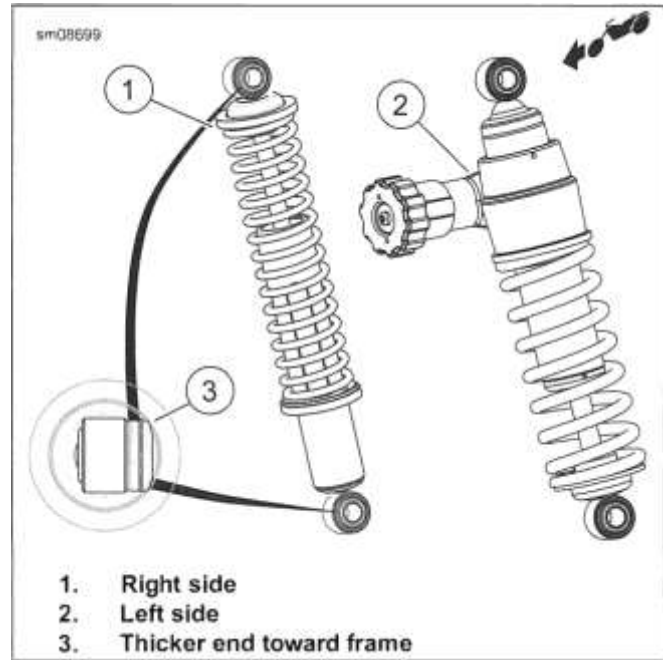

Figure 3-81. Manual Adjust Shock Absorber
- See Figure 3-81. Install right shock absorber (1) with the rod end up.
- Install right shock absorber with thicker end (3) of bushings facing frame.
- Install left shock absorber (2) with the knob topside and facing forward.